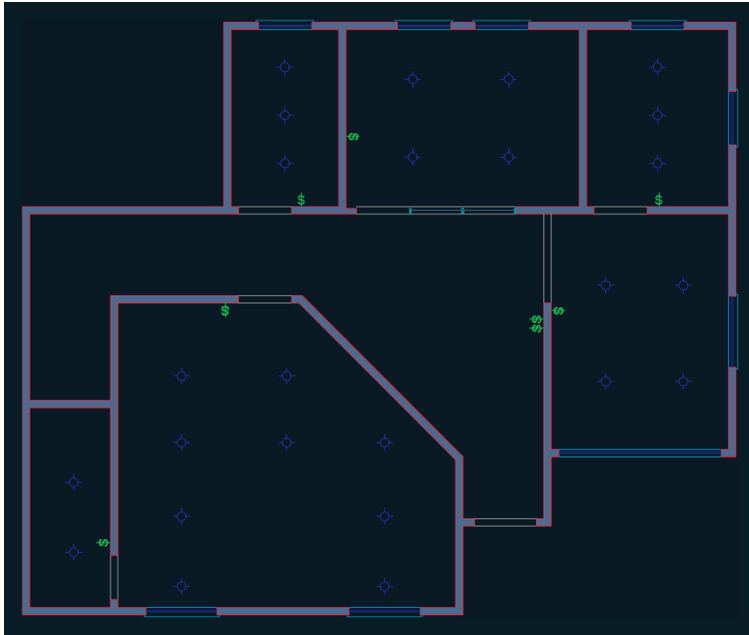

FIGURE 6.13 Reflected ceiling plan created by toggling layers off
4. Choose Yes from the dynamic prompt. Press Esc to end the LAYOFF command. Figure 6.13 shows the result.